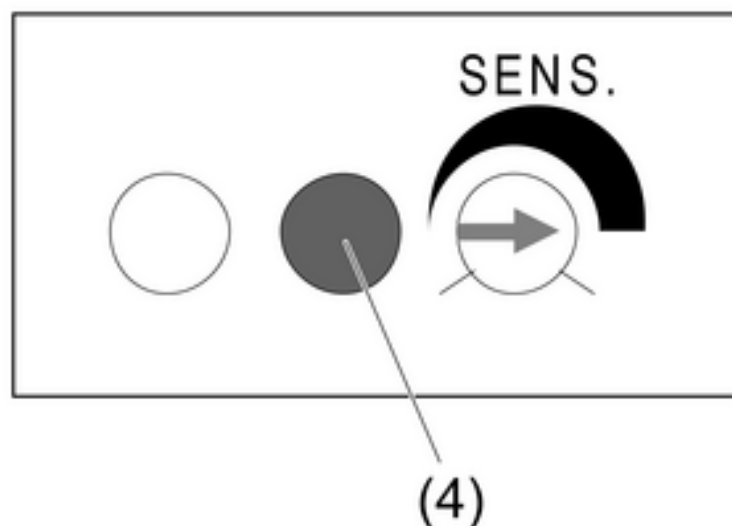

Figure 13
The red LED (4) lights up for approx. 1 minute (Figure 13). Then the motion detector is in walking test/teach mode for approx. 10 minutes. This is displayed by rapid flashing of the red LED. In this mode the motion detector evaluates motions regardless of the brightness. Every telegram transmitted here can be taught in the radio receiver.